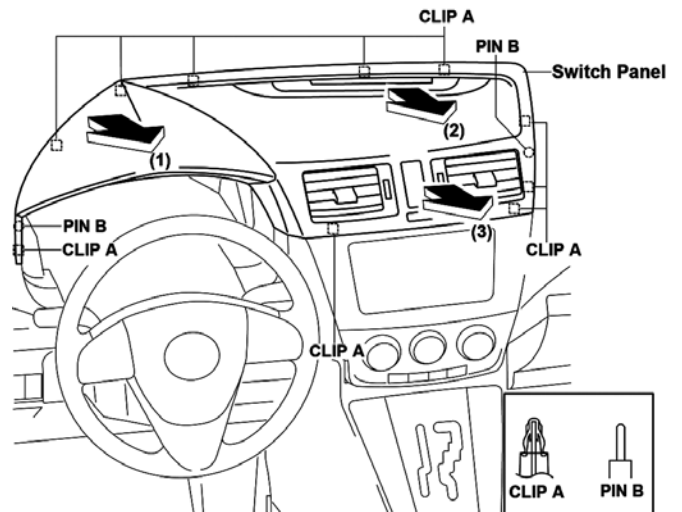

FIGURE 16
1. PULL THE SWITCH PANEL OUTWARD AND DISENGAGE CLIPS A AND PINS B IN DIRECTION AND ORDER SHOWN (1), (2), (3). (SEE FIGURE 16)
2. DISCONNECT THE HAZARD SWITCH CONNECTOR AND BLUETOOTH CONNECTOR (IF EQUIPPED). (SEE FIGURE 16)
3. REMOVE SWITCH PANEL. (SEE FIGURE 16)